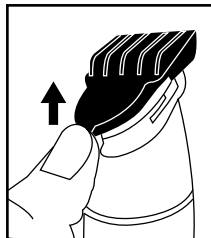

Fig. 9.
- To remove the jawline or body comb guides, push the tab up at the base of the comb guide which will release the guide from the blade (Fig. 9).